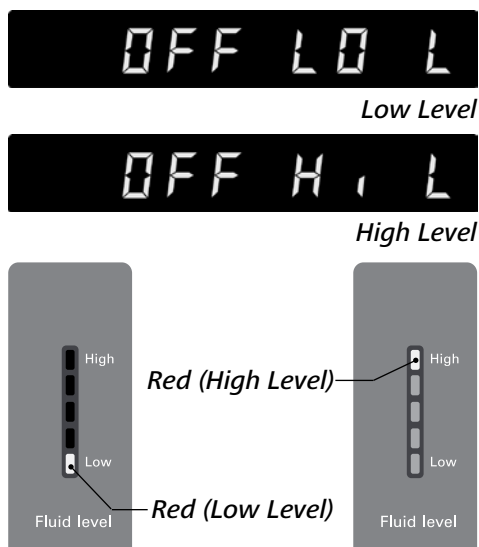

Fig. 9
- Connect the power plug and turn on the device with power switch (10).
- The low level warning message appear on the display. Meanwhile, the bottom LED segment of fluid level indicator lights up in red color to indicate the low fluid level (see Fig. 9).
- Open the filling opening lid (4) and remove the stopper from the filling opening. Then, fill fluid to the bath.